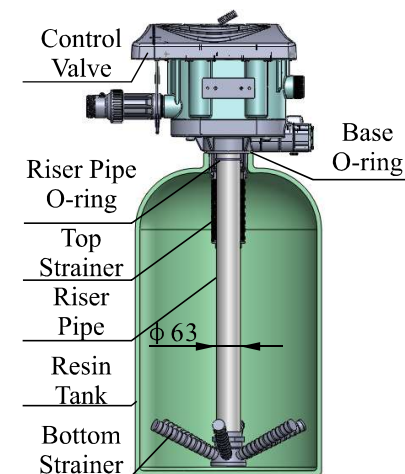

Figure 1-1
- ①The filter or softener should be located close to drain.
- ②Ensure the unit is installed in enough space for operating and maintenance.
- ③Brine tank need to be close to softener.
- ④The unit should be kept away from the heater, and not be exposed to outdoor. Sunshine or rain will cause the system damage.
- ⑤Please avoid installing the system in one acid/alkaline, magnetic or strong vibration circumstance, because above factors will cause the system disorder.
- ⑥Do not install the filter or softener, drain pipeline in circumstance which temperature may drop below 5℃, or above 45℃.
- ⑦ Install the system in the place where with the minimum loss in case of water leaking.
C. Pipeline installation (Take 63620T as a sample)**①Install control valve**
a. As the Figure 1-1 shows, select the riser pipe with 63mm OD, glue the riser pipe to the bottom strainer and put it into the resin tank, cut off the exceeding pipe out of tank top opening. Plug the riser pipe in case of resin entering.